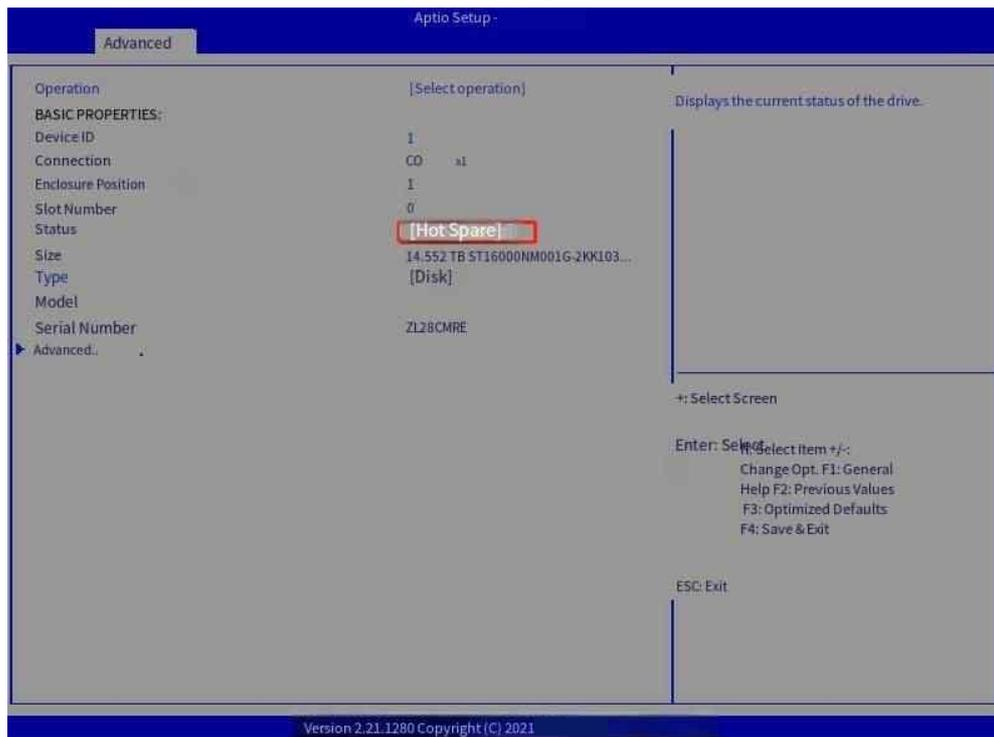

Figure 7-41 Check the hard drive status
Step 3: Click Ok and return to the hard drive information screen. Check the Status of the hard drive, which is Hot Spare (Figure 7-41).